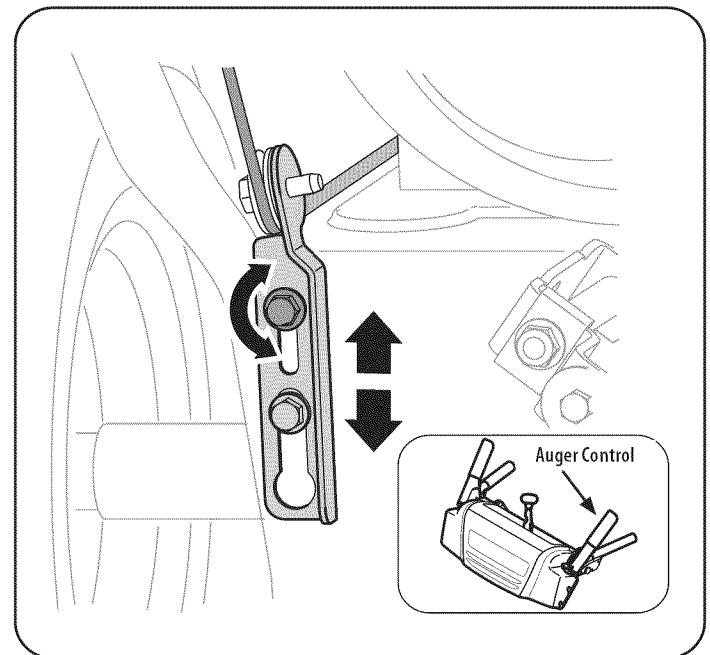

Figure 17
7. To readjust the control cable, loosen the upper hex bolt on the auger cable bracket. See Figure 17.